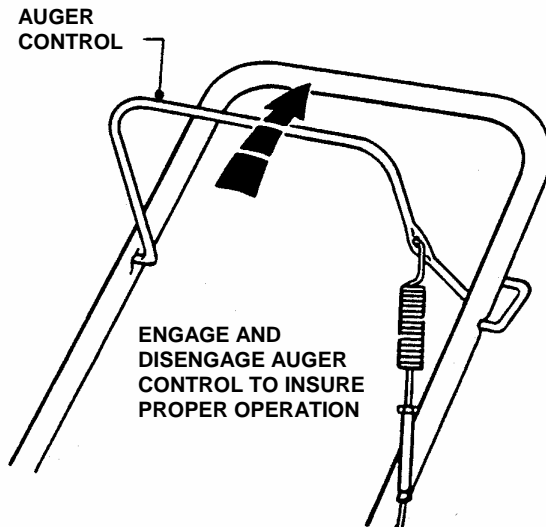

FIGURE 2.1
2.1.2. Check auger control to insure it works freely. See Figure 2.1.